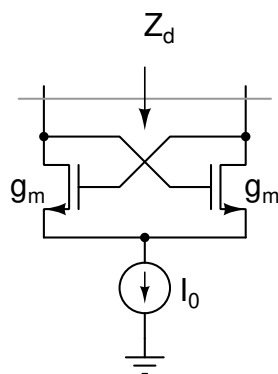

Figure 1.2: Problem 1.2.
- 1.2. Determine Z_d in the circuit in Fig. 1.2.